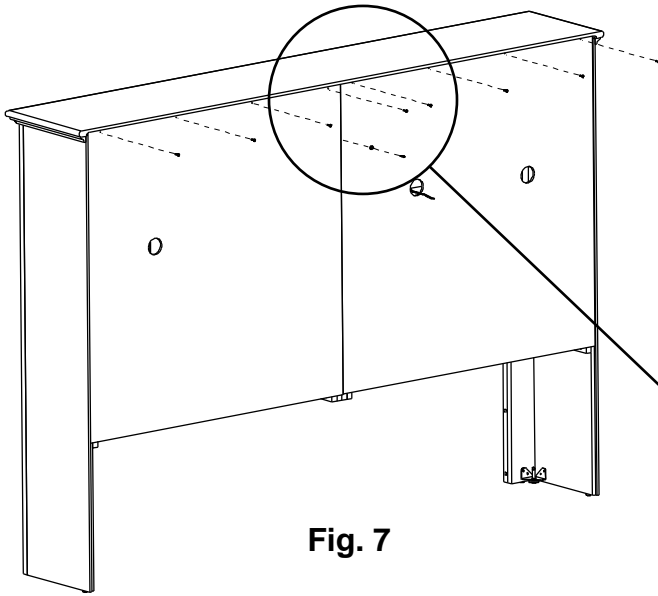

Fig. 7
7. To divide this larger unit into three sub-assemblies, start by removing the Top Assembly (XA). Remove the #6 x 3/4" Flat Head Screw (YQ) and #8 Washer (YR) connecting the Backs to the Vertical Divider, and the #6 x 5/8" Philtruss Screws (ZJ) connecting the backs to the Top Assembly. Do not remove the Backs. See Figures 7 and 7a.